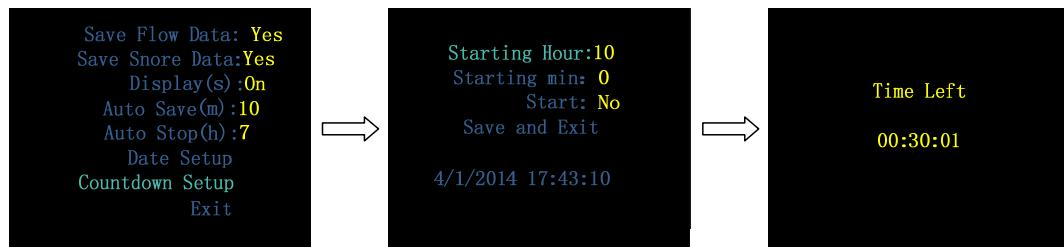

Figure 1-15 “Countdown Setup” interface
- **Countdown Setup**, allowing users to set the device to start recording at a certain time according to their needs. The maximum countdown time is 14 hours, and the device will start recording automatically when the countdown reaches 0:00:00, as shown in Figure 1-15. Press and hold the **Shift** Button  for five seconds to exit the “Countdown Setup” interface.